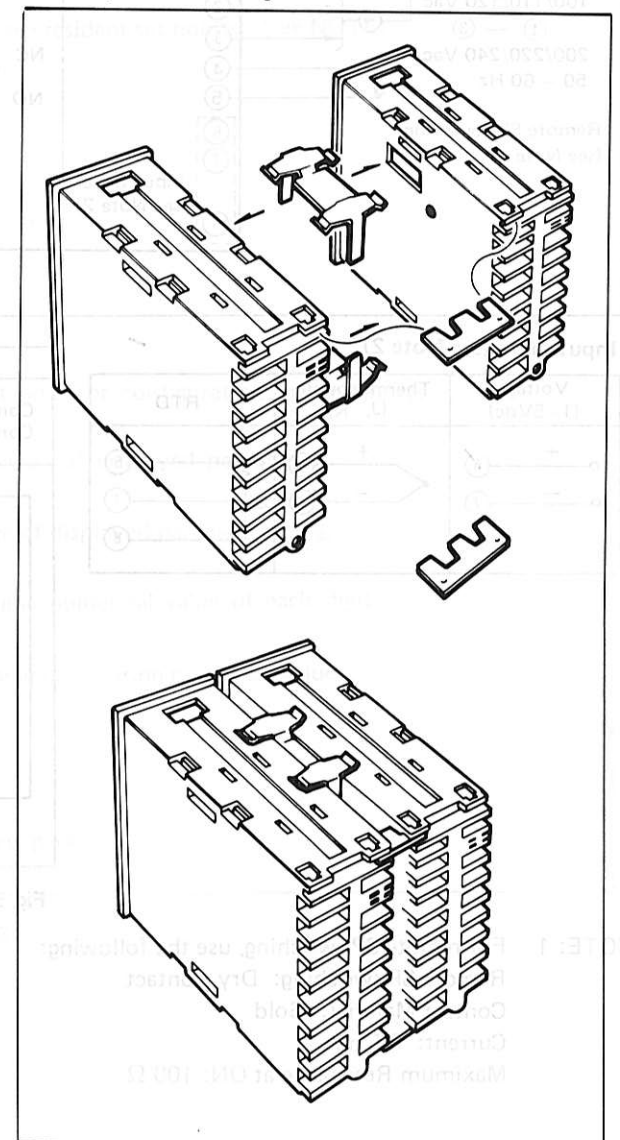

Fig. 4
- (2) Side-by-Side Mounting (Fig. 4)